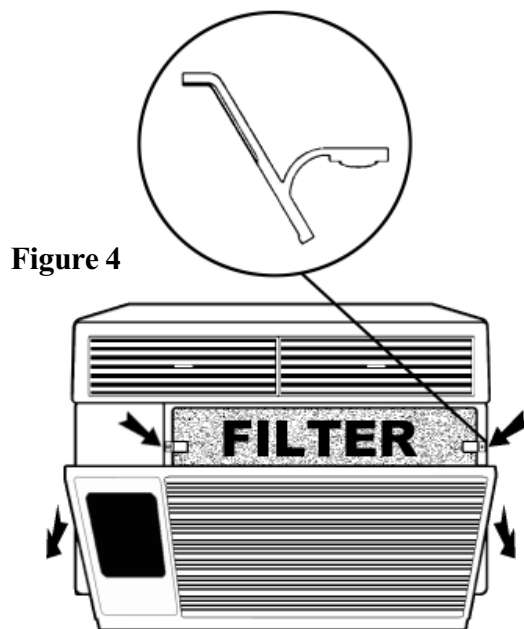

Figure 4
Open the return air (RA) grille by grasping it at the top outside edges and pulling towards you (See Figure 4). The RA grille will stay open until it is detached or closed (it is easier to completely detach the grille before closing it). To remove the RA grille, grasp it at the bottom and pull towards you.